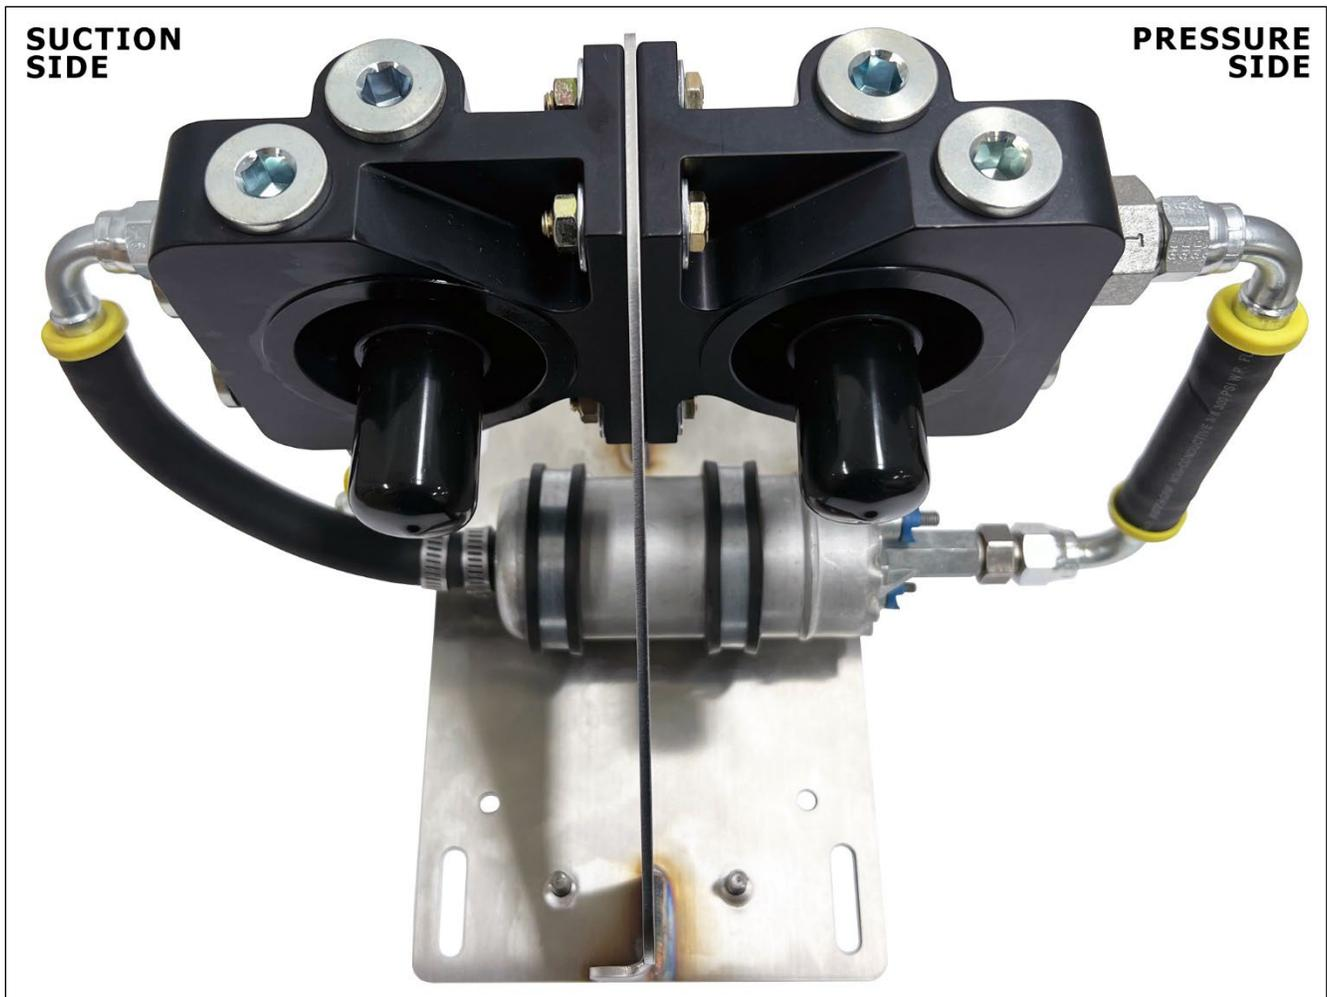

FIGURE 2 – FRONT VIEW OF ASSEMBLED FILTER/PUMP BRACKET (INSIDE FRAME ORIENTATION)
1. Determine where your fuel pump and filter bracket will be getting installed (inside the frame is preferred, if your truck has room...or outside the frame on shorter wheelbase trucks). You need roughly 13-14" of clear space along the frame, see the chart above for some notes about what to expect. This step is **REQUIRED** in order to orient the pump and plumbing correctly during assembly. **SEE THE IMPORTANT IMAGE NOTES after FIGURE 2!**